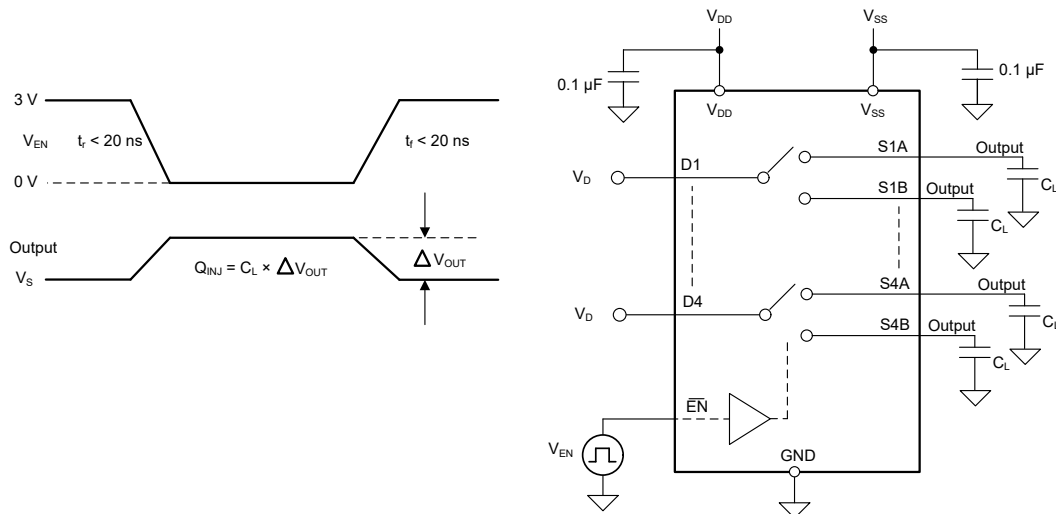

图 7-9. Charge-Injection Measurement Setup
The TMUX7234 has a transmission-gate topology. Any mismatch in capacitance between the NMOS and PMOS transistors results in a charge injected into the drain or source during the falling or rising edge of the gate signal. The amount of charge injected into the source or drain of the device is known as charge injection, and is denoted by the symbol Q_{INJ} . 图 7-9 shows the setup used to measure charge injection from source (Sx) to drain (D).